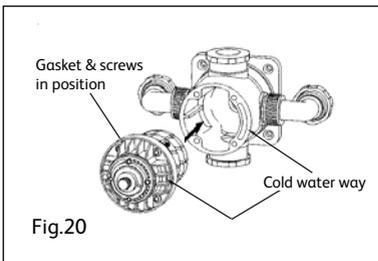

Fig.20
13. Offer the cartridge up to the body after checking that the waterway in the rear of the cartridge is in alignment with the waterway, which is situated in the face of the body (Fig 20).